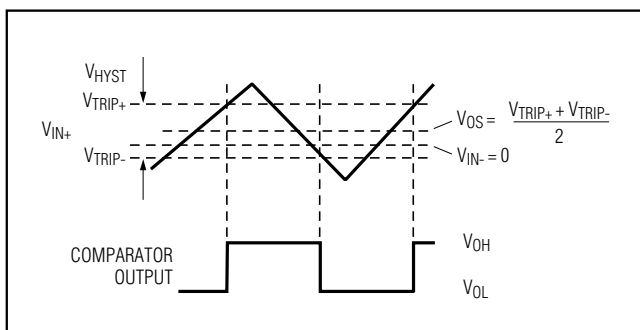

Figure 1. Input and Output Waveforms, Noninverting Input Varied
- Note 3:** V_{OS} is defined as the mean of trip points. The trip points are the extremities of the differential input voltage required to make the comparator output change state (Figure 1).
- Note 4:** The difference between the upper and lower trip points is equal to the width of the input-referred hysteresis zone (Figure 1).
- Note 5:** Propagation Delay is guaranteed by design. For low overdrive conditions, V_{TRIP} (Figure 1) is added to the overdrive.
High-speed comparators can oscillate in the linear operating region because of noise or undesired parasitic feedback. This tends to occur when the voltage on one input is equal to or very close to the voltage on the other input. The MAX976/MAX978/MAX998 have internal hysteresis to counter parasitic effects and noise. The hysteresis in a comparator creates two trip points: one for the rising input voltage and one for the falling input voltage (Figure 1). The difference between the trip points is the hysteresis. When the comparator input voltages are equal, the hysteresis effectively causes one comparator input voltage to move quickly past the other, taking the input out of the region where oscillation occurs.
Figure 1 illustrates the case where V_{IN-} has a fixed voltage applied and V_{IN+} is varied. If the inputs were reversed, the figure would be the same, except with an inverted output.